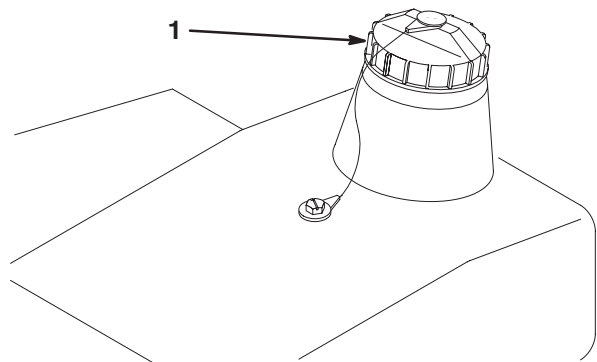

Figure 6
1. Clean the area around the hydraulic oil reservoir cap to prevent debris from entering the tank (Fig. 6).
2. Remove the cap from the hydraulic oil reservoir (Fig. 6).